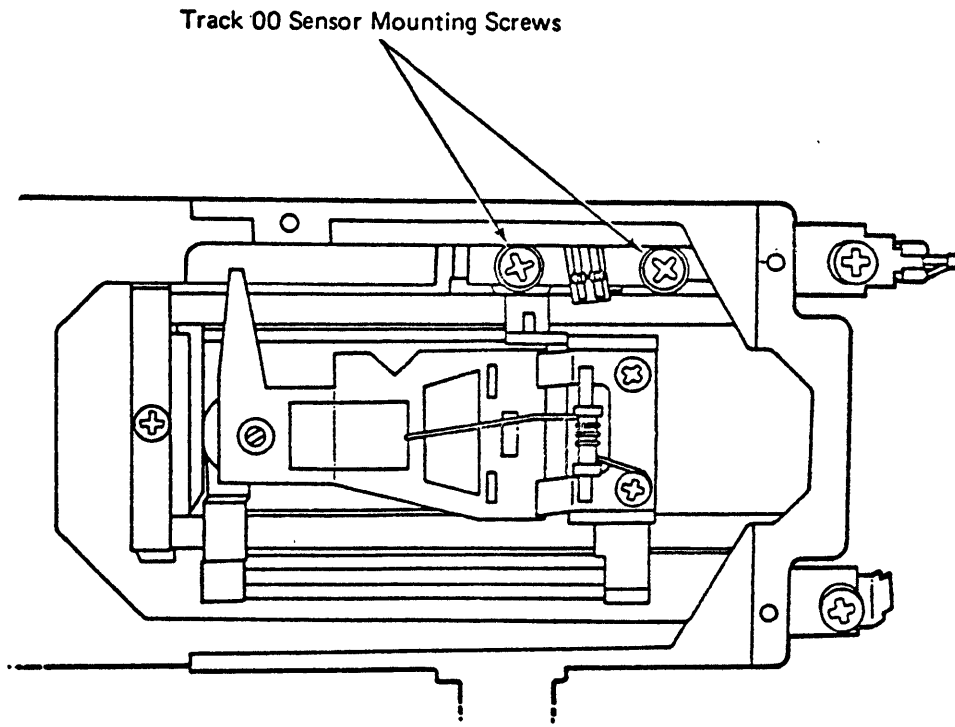

FIGURE 5
- B.** The TRACK 00 SENSOR adjustment has the same waveform specifications and oscilloscope settings as the SIEMENS drive (Refer to step **5.0**). If the adjustment is not within specification loosen the (2) track 00 sensor mounting screws (under the drive PWB towards the rear of the drive) and move the sensor until the waveform is within specification (Refer to Figure 5).